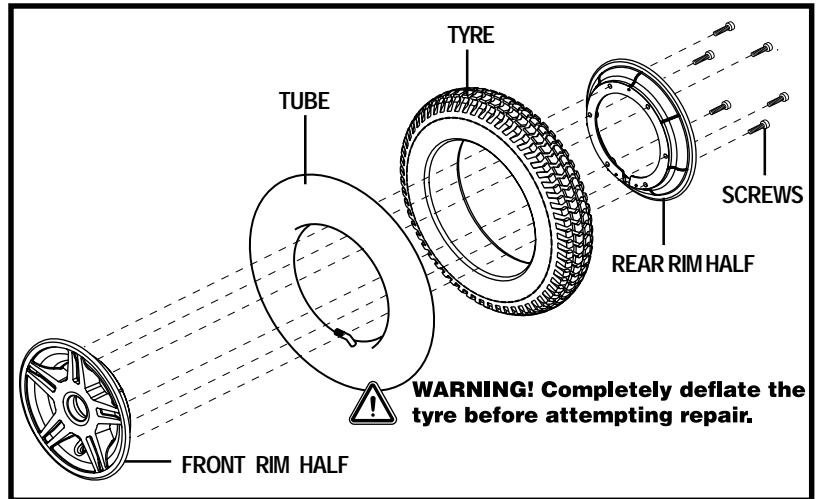

Figure 36. Quantum 600 XL Drive Wheel Disassembled
6. Remove the screws that fasten the two rim halves together. See figure 36.